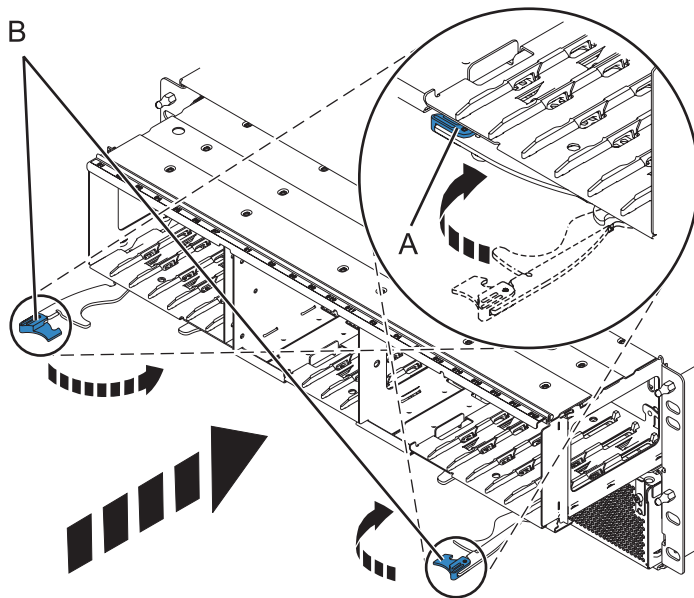

Figure 5. Installing the backplane on a rack-mounted model
3. Using your hand to support the bottom of the backplane or backplane filler, slide it into the expansion unit as shown in Figure 5 or Figure 6 on page 7.